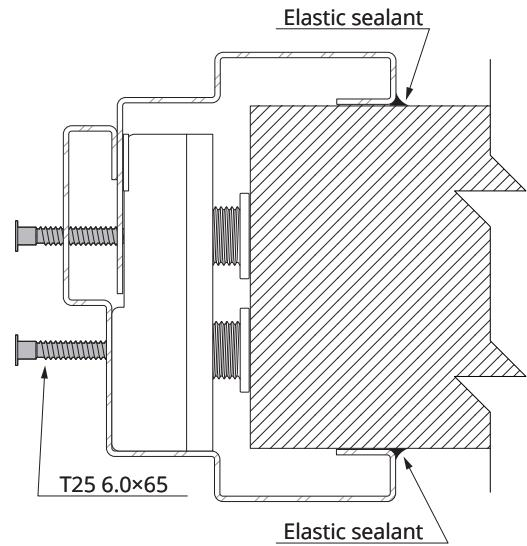

Figure 10
- In case of doors with smoke and acoustic classification, the space between the frame skirting and the wall as well as the threshold and the floor must be additionally sealed with elastic sealant (see Figures 10 and 11).